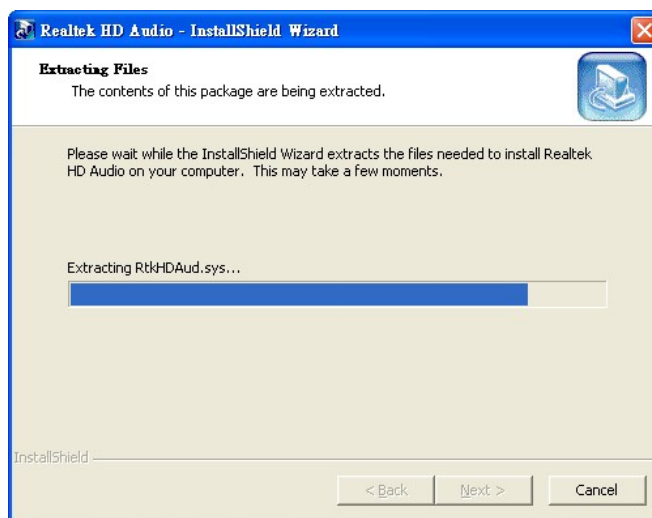

Figure 6-19: The InstallShield Wizard Starts
- Step 3:** The **InstallShield Wizard** starts (**Figure 6-19**).